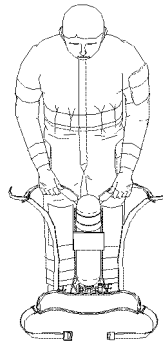

Figure 077-3-15. Positioning Backframe and Harness Assembly for Coat-Style Method
- (1) Position backframe and harness assembly with cylinder valve on deck, cylinder assembly facing user, and fully extended side straps facing away.
- (2) Grasp shoulder straps as shown in Figure 077-3-15.